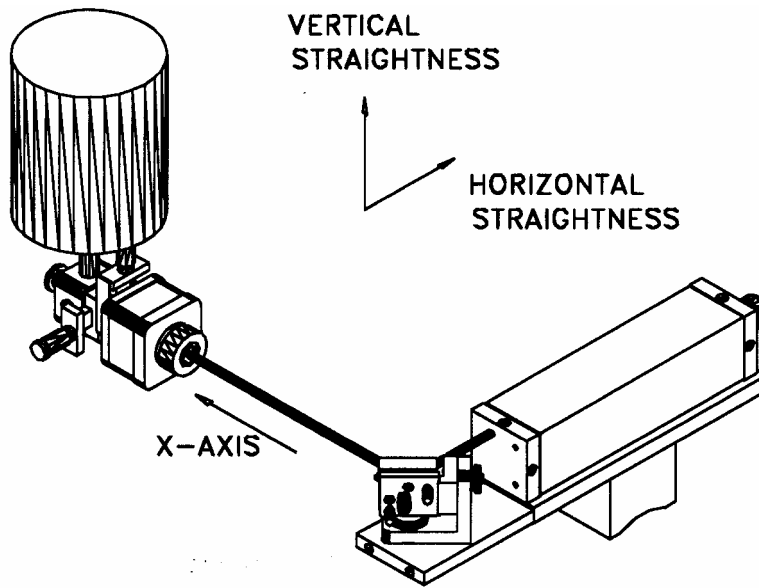
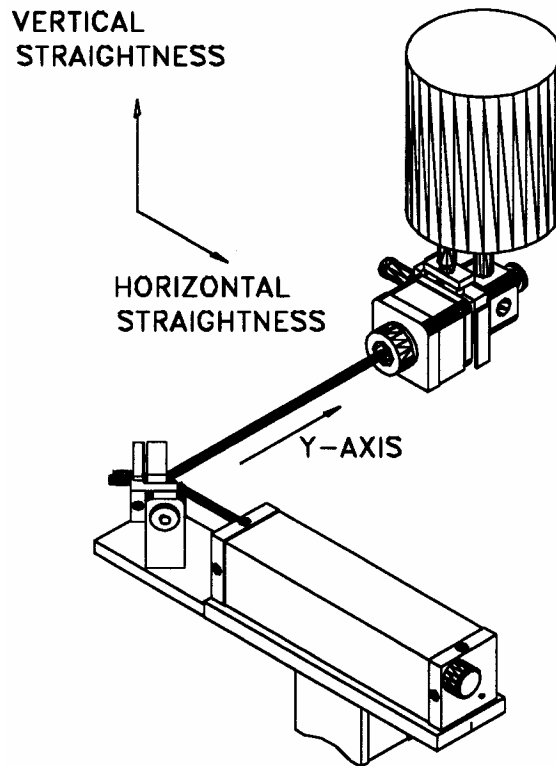

FIG. 10-13 HORIZONTAL AND VERTICAL STRAIGHTNESS OF X-AXIS
FIG. 10-14 HORIZONTAL AND VERTICAL STRAIGHTNESS OF Y-AXIS
2. A typical set up to measure the horizontal and vertical straightness of X-axis and a vertical machine center is shown in Fig. 10-13. Similar measurements for Y-axis and Z-axis are shown in Fig. 10-14 and 10-15. Make sure all cables are firmly attached to the bed so that the movement of the bed will not disturb the laser head or the quad-detector. The above setup is preferred when both straightness and squareness need to be measured.